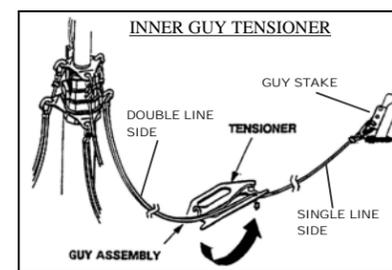
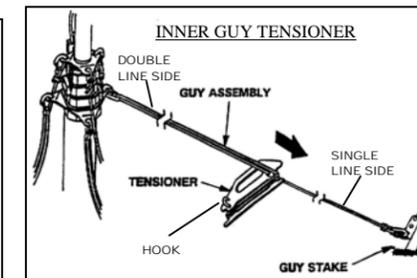

Figure 8
Figure 9
16. Remove the slack in one of the inner guy tensioners by winding the trailing end of the guy line around the tensioner. See Fig. 8.
17. Tension the line by sliding the tensioner toward the guy stake and lock it by placing the guy tensioner hook over the double guy lines. See Fig. 9.
5. After the mast is fully nested, hold the mast vertical and release the four inner guy tensioners to slacken the lower guy lines. (Ref. Fig. 8 and Fig. 9)